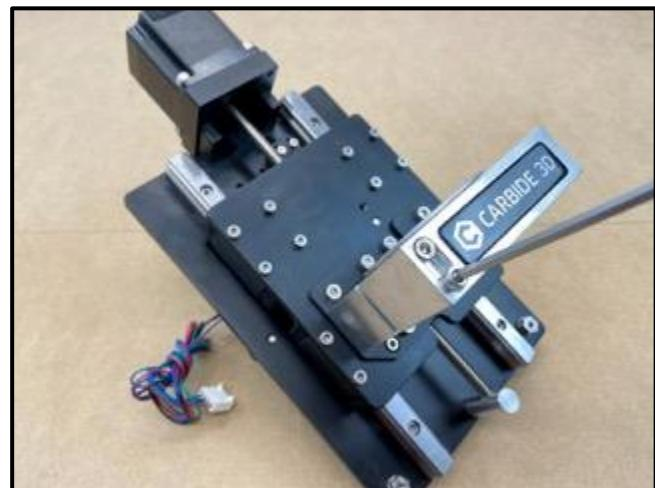

Figure 3-13
- Use the 4mm hex key to insert the two M5x55mm socket head cap screws into the front of the router mount. Hand tighten only. *Figure 3-13*.